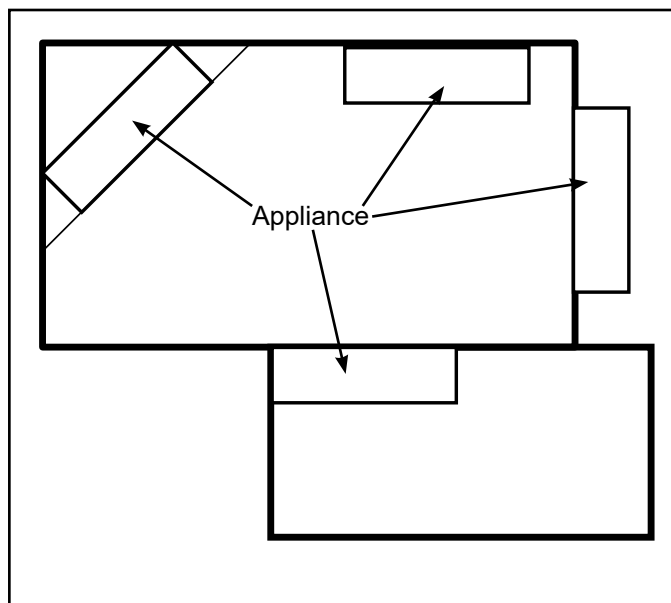

Figure 2.2
1. Position appliance in desired location. Refer to the *Appliance Location* (page 7, Figure 2.2) and *Clearances and Height Requirements* (page 16, Section 3.B) sections and *Appliance and Framing Dimensions* (page 10 and 11, Section 3.A) illustration found in this manual.
- Minimize modifications to existing construction. Refer to Figure 2.2 below for location suggestions.